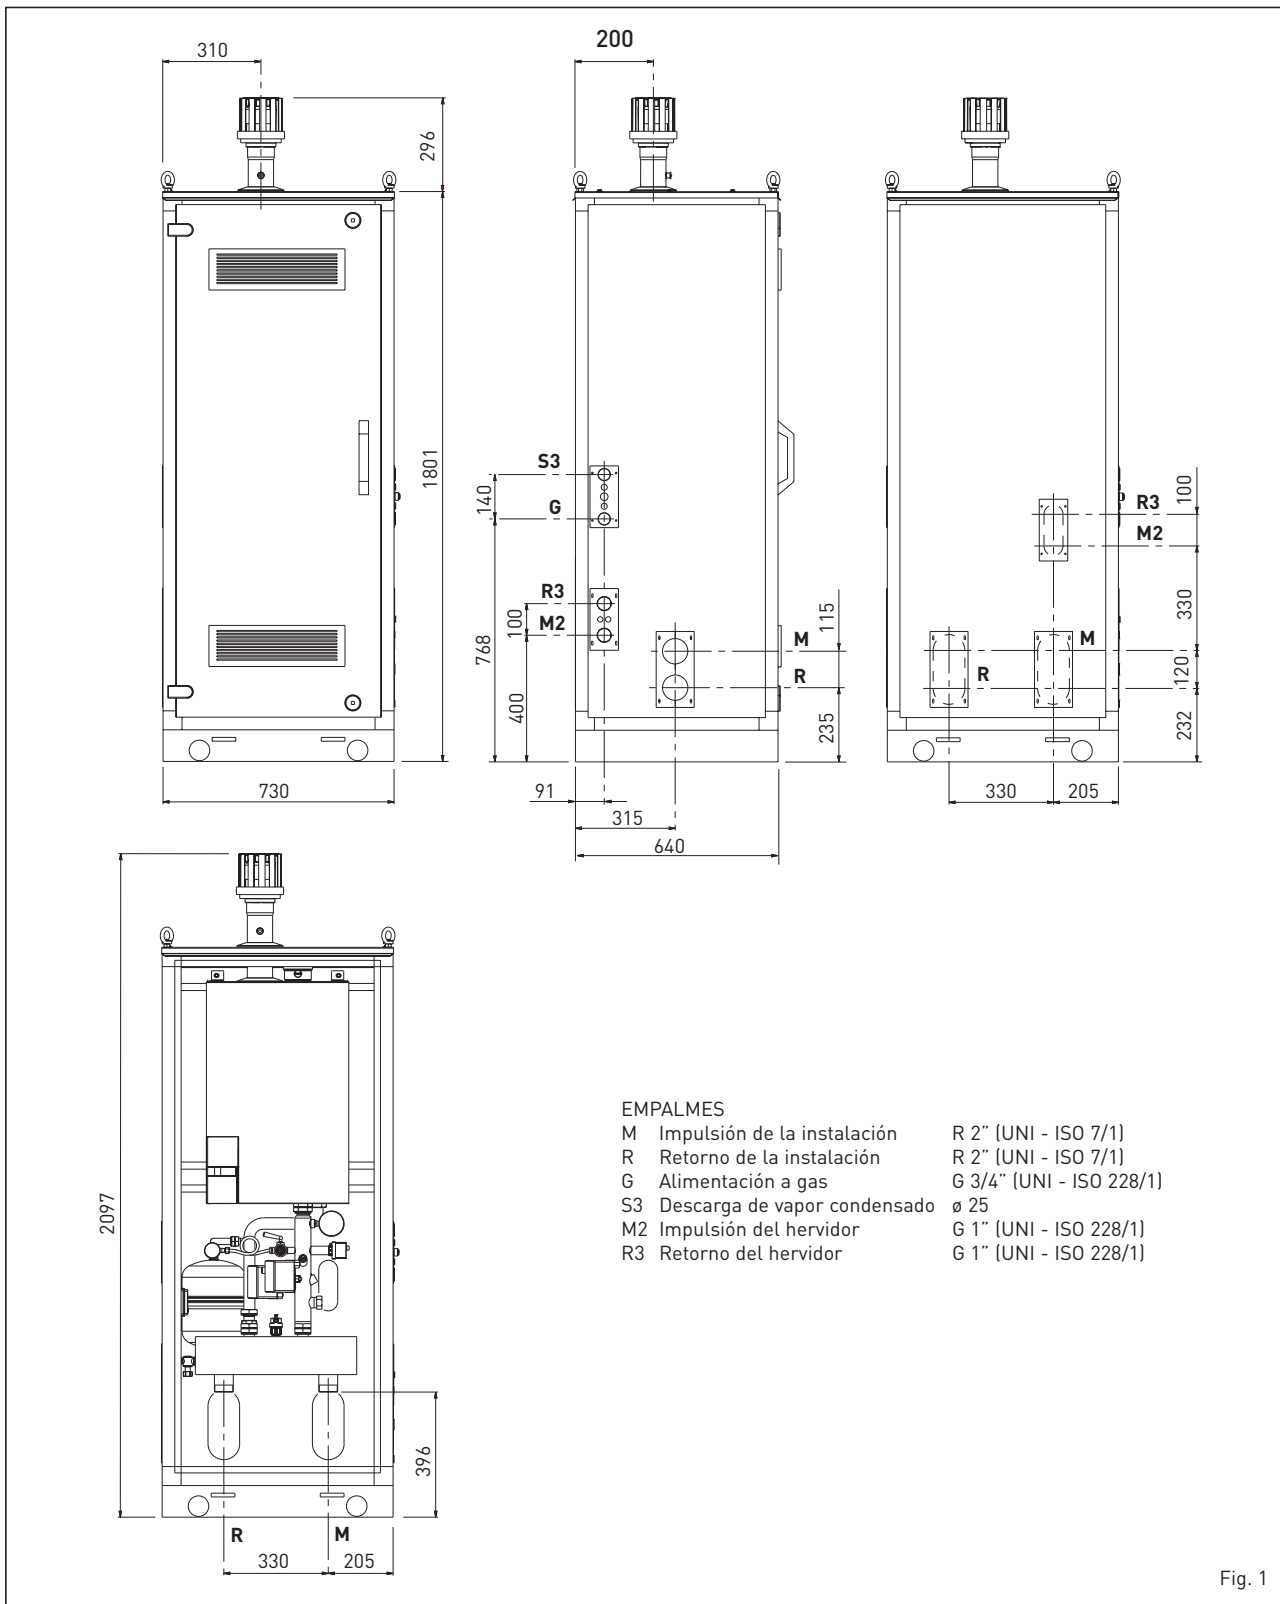

Fig. 1
1.2 DIMENSIONES TOTALES (fig. 1)